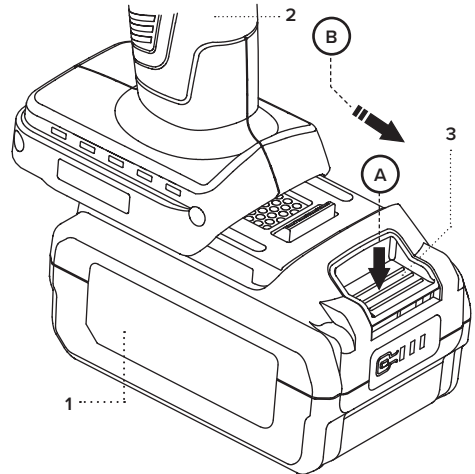

Fig. 1B: 1. Battery 2. Main handle 3. Lock button.
To remove the battery (*Fig. 1B*), press the battery lock button (3) to disengage the battery (1) and slide the battery away from the base of the frame.